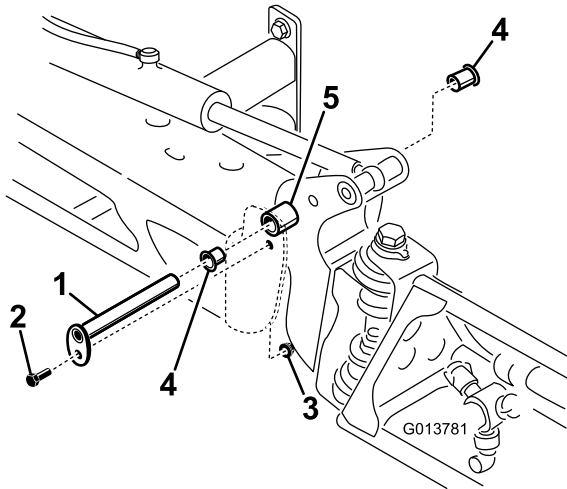

Figure 95
3. With the weight of the boom supported, remove the bolt and nut securing the pivot pin to the boom assembly (Figure 95).
4. Remove the pivot pin (Figure 95).
6. Remove and inspect the nylon bushings from the front and back sides of the pivot bracket (Figure 95).
8. Install the boom and pivot-bracket assembly into the center frame, aligning the openings (Figure 95).